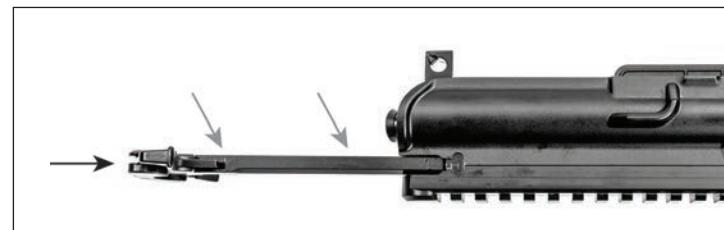

Fig. 37 – Charging Handle Installation
f. Turn the upper receiver upside down, insert the charging handle into the upper receiver, align the lugs on the outsides of the charging handle with the recesses on the inside of the upper receiver then press down until the charging handle is flush with the inside of the receiver then press slightly forward (Fig. 37).